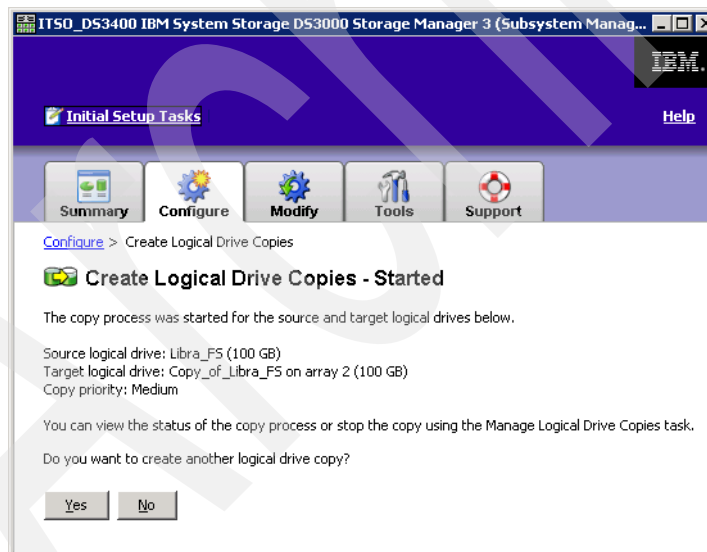

Figure 9-78 VolumeCopy - Started
8. The VolumeCopy process starts. You can either create another VolumeCopy or return to the Configuration tab (Figure 9-78).